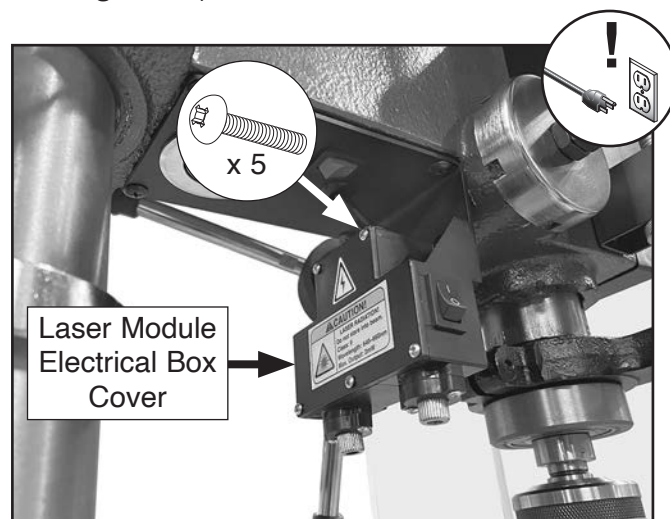

Figure 79. Location of laser module electrical box cover and securing screws.
2. Remove (5) Phillips head screws to remove laser module electrical box cover (see **Figure 79**).